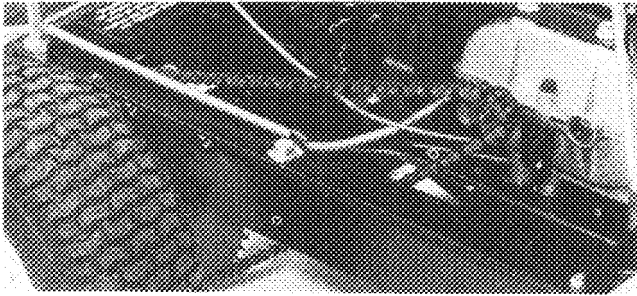
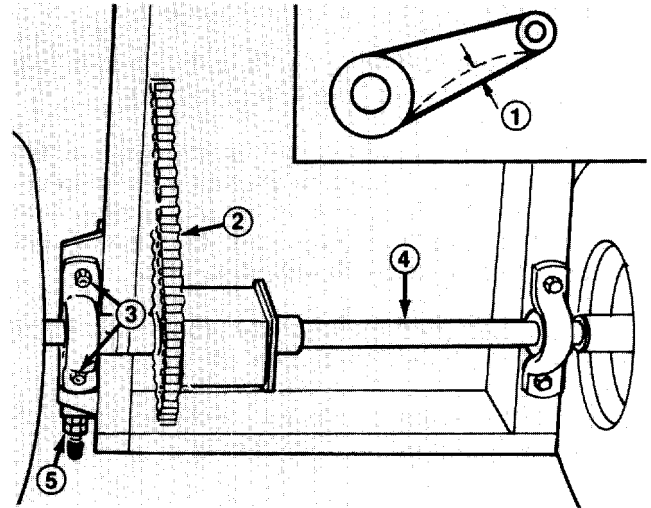

Figure 39
Figure 40
2. Check deflection of drive chain by lifting up and pressing down on chain with moderate pressure at mid span (Fig. 39). There should be 1/8 of an inch (3 mm) total deflection (Fig. 40). If deflection is not as specified, an adjustment is required — steps 3-14.
6. Shift transmission into 1st gear and engage the parking brake. Tip rider onto its rear end so chassis is on top of 2" x 4" blocks (Fig. 40). Wheels must be off the floor so axle can be moved.
7. Loosen four flange nuts securing pillow blocks w/differential axle to the rider frame (Fig. 40).
8. Loosen rear jamnut on chain tensioner (Fig. 40).
11. Since differential axle must be parallel to rear of chassis, measure distance from center of pillow blocks to rear of chassis (Fig. 40). Difference between the two measurements must not exceed 1/8 inch (3 mm). If difference exceeds 1/8 inch (3 mm), differential axle is not parallel with chassis; therefore it must be readjusted.